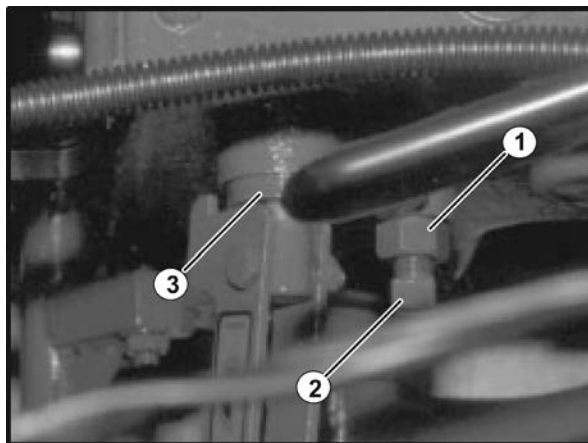

FIGURE 8
20. After installation of pulley shaft, check for proper clearance between dog clutch faces. With the blade shifter handle "Engaged", measure between the dog clutch faces. Remove or add shims to obtain .015" (39 mm) clearance (Figure 8)